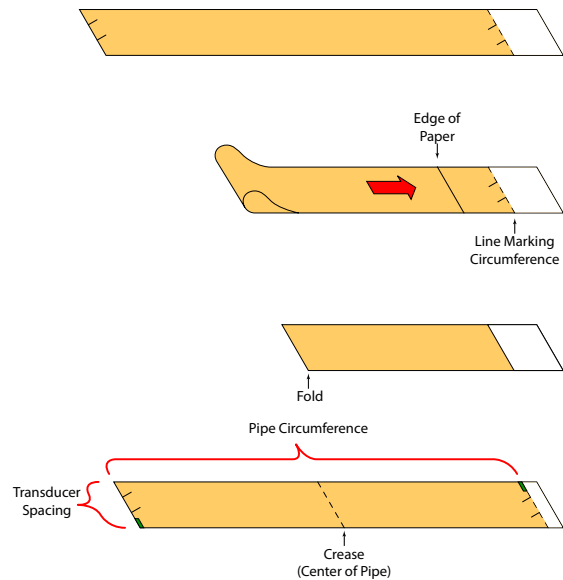

Figure 20: Bisecting the pipe circumference
2. Mark the intersection of the two ends of the paper to indicate the circumference. Remove the template and spread it out on a flat surface. Fold the template in half, bisecting the circumference. See *Figure 20*.